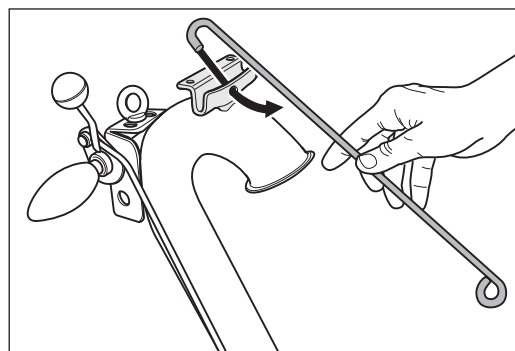

Fig. 12 Hook the cable support into the bracket at the guide tube.
- 6 Hook the cable support into the bracket at the top of the guide tube (fig. 12)